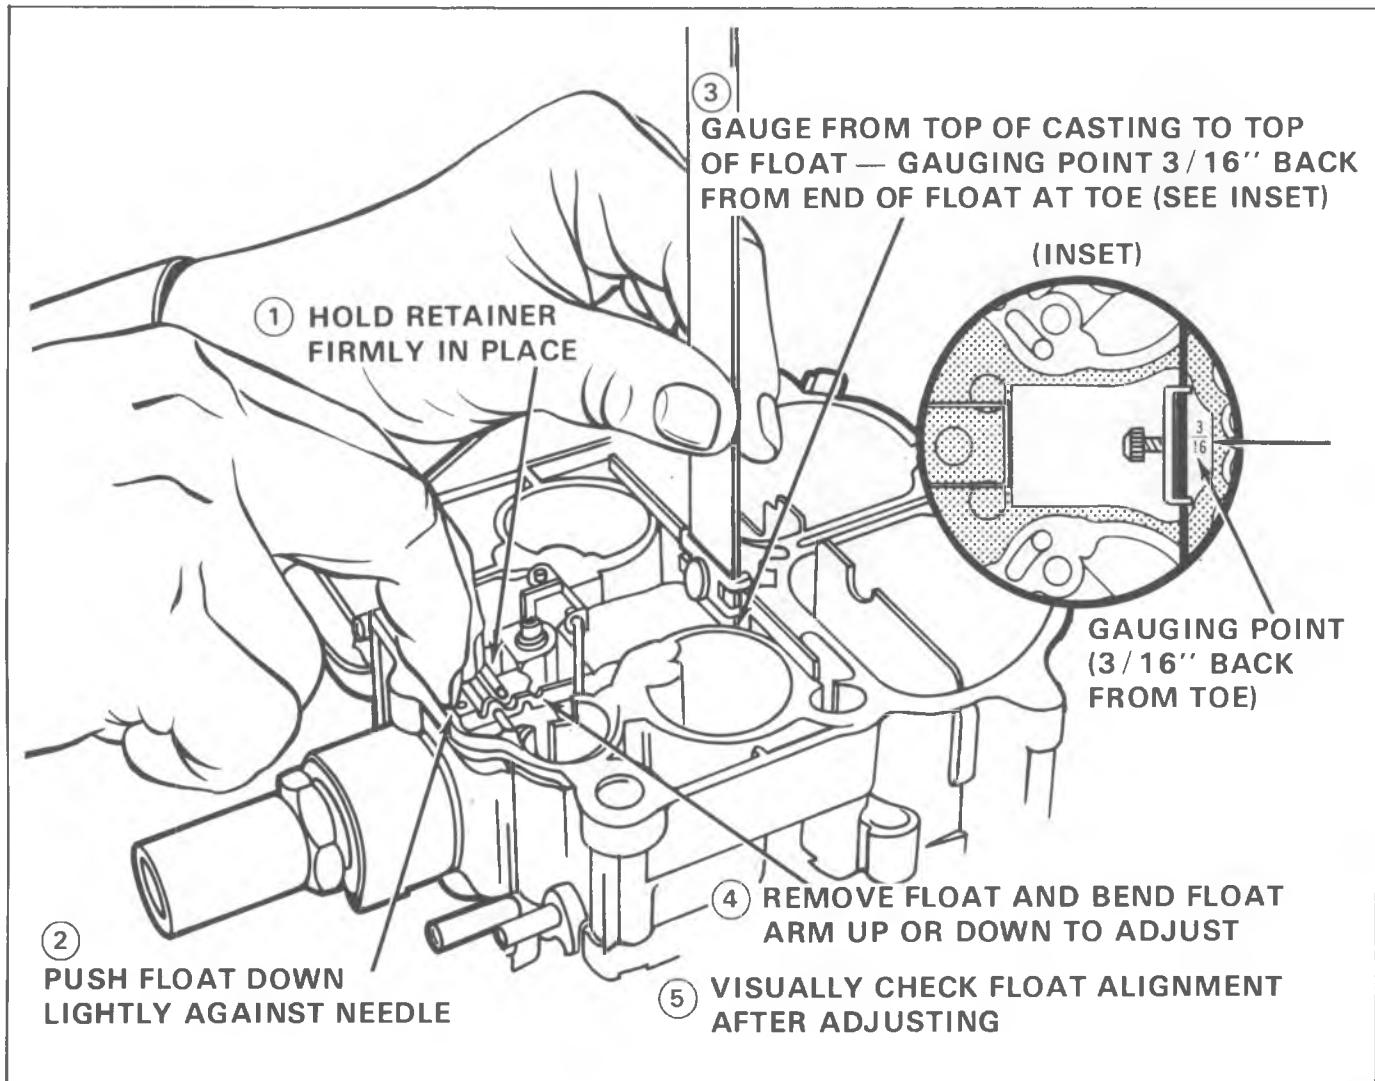

Fig. 6C-56—Float Level Adjustment
12. Install power piston spring in power piston well. If main metering rods were removed from hanger, reinstall making sure tension spring is connected to top of each rod (Fig. 6C-43). Install power piston assembly in well (aligning pin on piston with slot in well) with metering rods properly positioned in metering jets. Press down firmly on plastic power piston retainer to make sure the retainer is seated in recess in bowl and the top is flush with the top of the bowl casting. If necessary, using a drift punch and small hammer, tap retainer lightly in place.